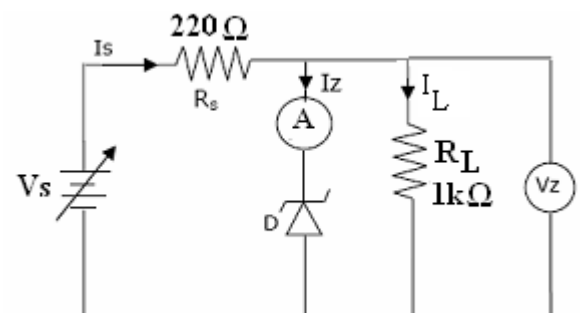

Figure 3
- Construct the circuit shown in Figure 3.
- 7- Calculate the value of the minimum Source voltage ( $V_{Smin}$ ) in Figure 3 for which below this value the Zener diode will no longer provide voltage regulation. (Assume that the minimum Zener diode current  $I_{Zmin} = 1 \text{ mA}$ ). Compare your calculated result with that from Table 2.
- 8- Calculate the value of maximum source voltage ( $V_{Smax}$ ) in Figure 3, for which the greater than this value the Zener diode will reach the maximum power dissipation, (Assume that the maximum Zener diode current  $I_{Zmax} = 25 \text{ mA}$ ).
- 10- Calculate the minimum value of the series resistor  $R_{S-min}$  in Figure 3 at  $V_S = 10\text{V}$  and  $R_L = 1 \text{ K}\Omega$ . (Assume that  $I_{Z(max)} = 25 \text{ mA}$  and  $I_{Z(min)} = 1 \text{ mA}$ ).